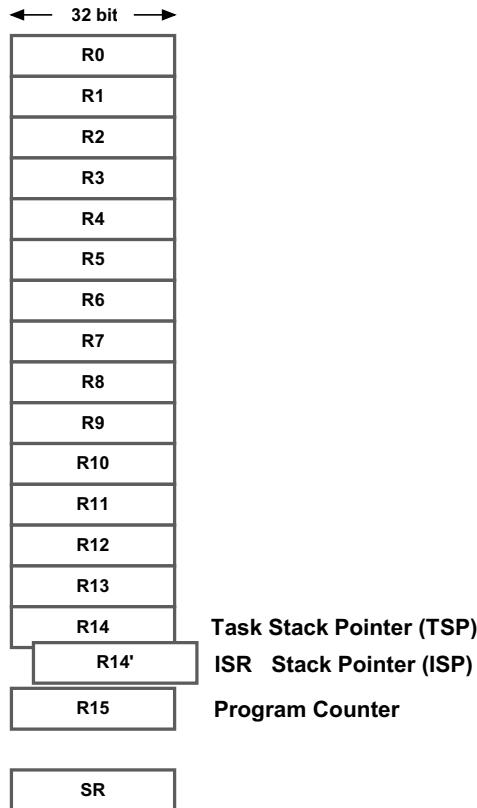

Figure 8-1 Fictitious CPU
In this chapter, we will discuss the context switching process in generic terms using a fictitious CPU as shown in Figure 8-1. Our fictitious CPU contains 16 integer registers (R0 to R15), a separate ISR stack pointer, and a separate status register (SR). Every register is 32 bits wide and each of the 16 integer registers can hold either data or an address. The program counter (or instruction pointer) is R15 and there are two separate stack pointers labeled R14 and R14’. R14 represents a task stack pointer (TSP), and R14’ represents an ISR stack pointer (ISP). The CPU automatically switches to the ISR stack when servicing an exception or interrupt. The task stack is accessible from an ISR (i.e., we can push and pop elements onto the task stack when in an ISR), and the interrupt stack is also accessible from a task.